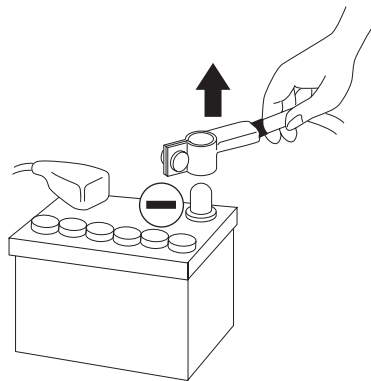

Fig. 1
- 2 - Disconnect the battery's negative wire before starting the installation. (*fig. 1*).
Before you begin the connection phase of set-up, remove the vehicle battery's negative (-) terminal (**fig. 1**).